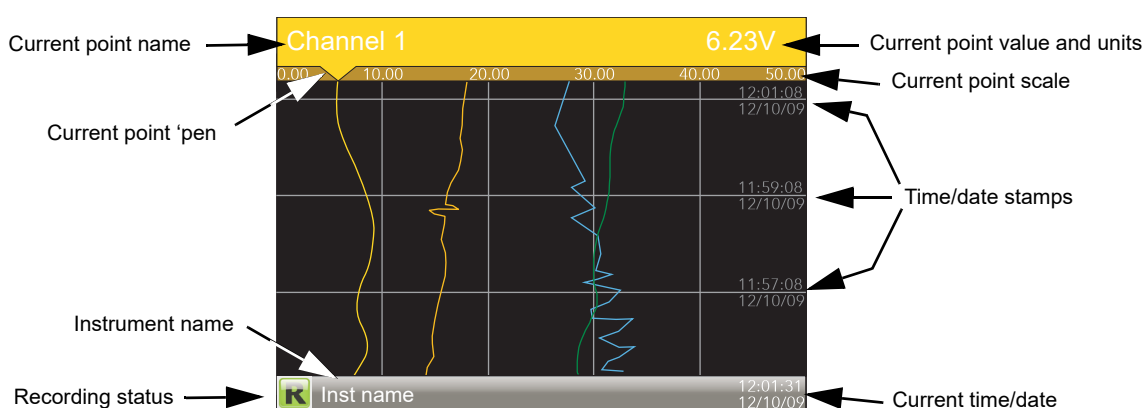

Figure 9 Typical display screen (Vertical trend)
**Figure 9** depicts a typical trend display and gives details of the various areas of the display page.
**Figure 9** shows a vertical trend page. Operating the Raise/Lower push-buttons allows the user to scroll through the other display modes: Horizontal trend, Vertical bargraph, horizontal bargraph, numeric, vertical trend... and so on. All these display modes are described in Display Modes, below.